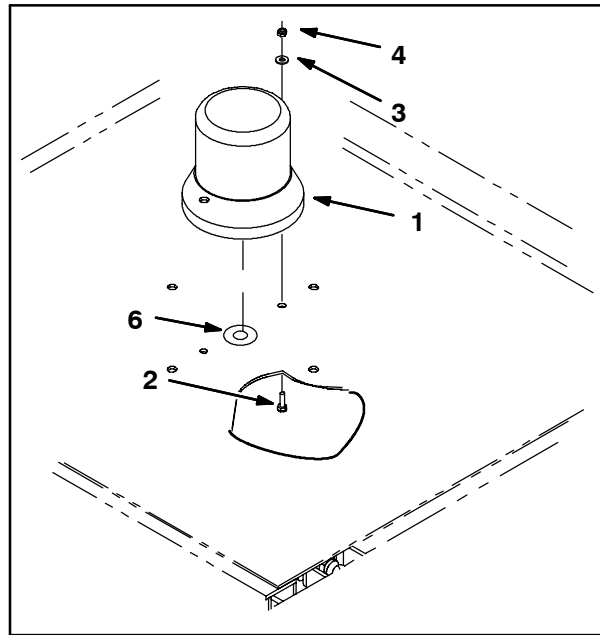

FIG. 5
3. Route the wires from the light (1) down through the grommet (6) installed in the overhead guard and use two hex screws (2), flat washers (3), and hex nuts (4) to install the light onto the overhead guard. (Fig. 5)